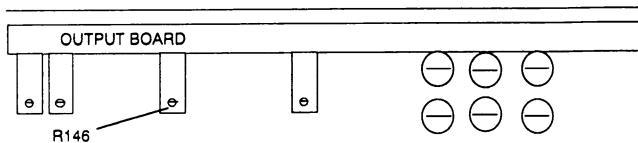

Figure 4-10. R146 Locator
2. Slide the cover back, and adjust the Output board's R146 (see figure 4-10) until the DVM reads $0V_{dc} \pm 2mV_{dc}$ of triangle offset. Slide the cover back on.